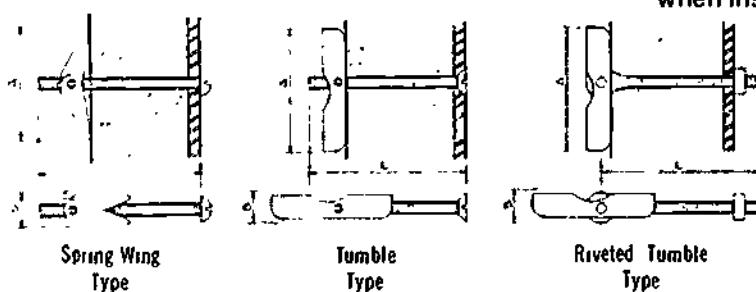

Figure 17-29. Toggle Bolt
b) The toggle bolt shown in Figure 17-29 is one of many makes and is an old-time favorite for walls with hollow spaces such as concrete block walls.